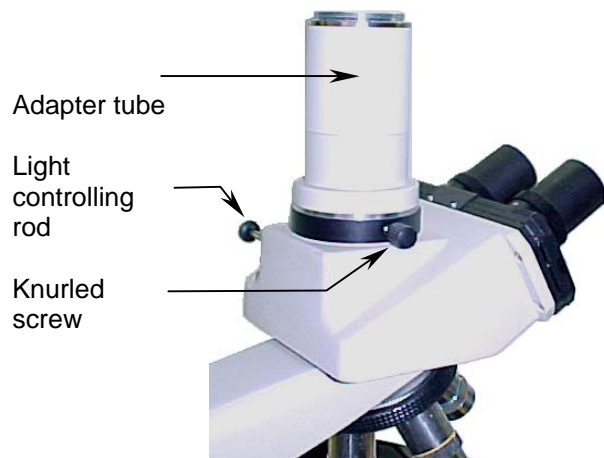

Fig. 4
The three position sliding rod (Fig. 4) allows the microscope image to appear easily through this third path.
2. Loosen the knurled screw located on the side of the dual viewing head until the protective cap that covers the port can be removed (Fig.4).